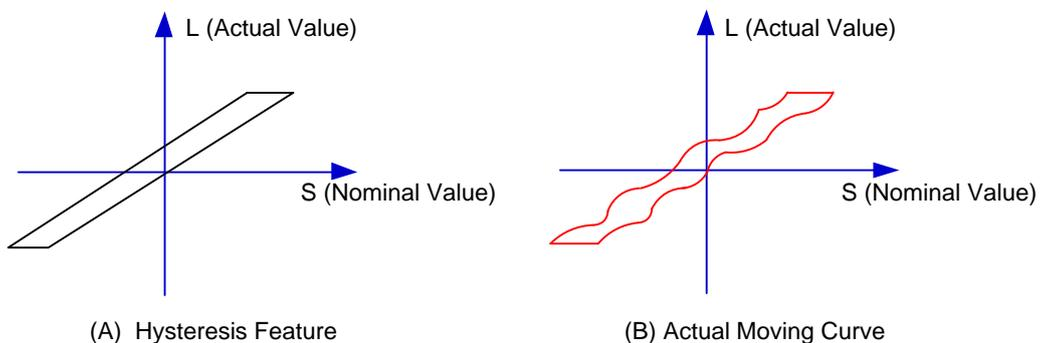

Fig. 3-38 Analysis of Backlash
Hysteresis feature is caused by forward and reverse clearance. Assume that driving shaft drives driven shaft in negative (CW) rotation, servo motor will be idling without moving worktable because of mechanical driving chain backlash, when the driving shaft suddenly begins CCW rotation (positive motion). After staying at a certain position for some time, the worktable will move backward with the driving shaft; when the direction of the driving shaft changes again, the situation is the same, which is called Hysteresis. If pitch error doesn't exist, under ideal condition, the moving curve of worktable is shown in Fig. 3-38(A), in which the curve of horizontal section is during the idling of servo motor without worktable movement. The actual moving curve of worktable is shown in Fig. 3-38(B).